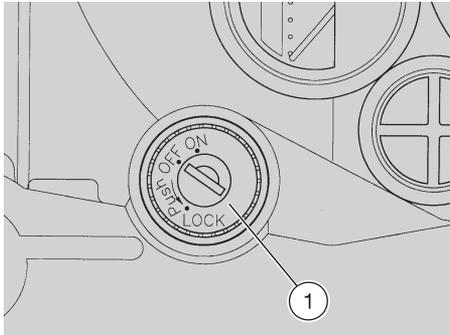

Fig. 23
STOPPING AND PARKING (Fig. 23)
- ◆ Turn the key to the "OFF" position (Fig. 23).